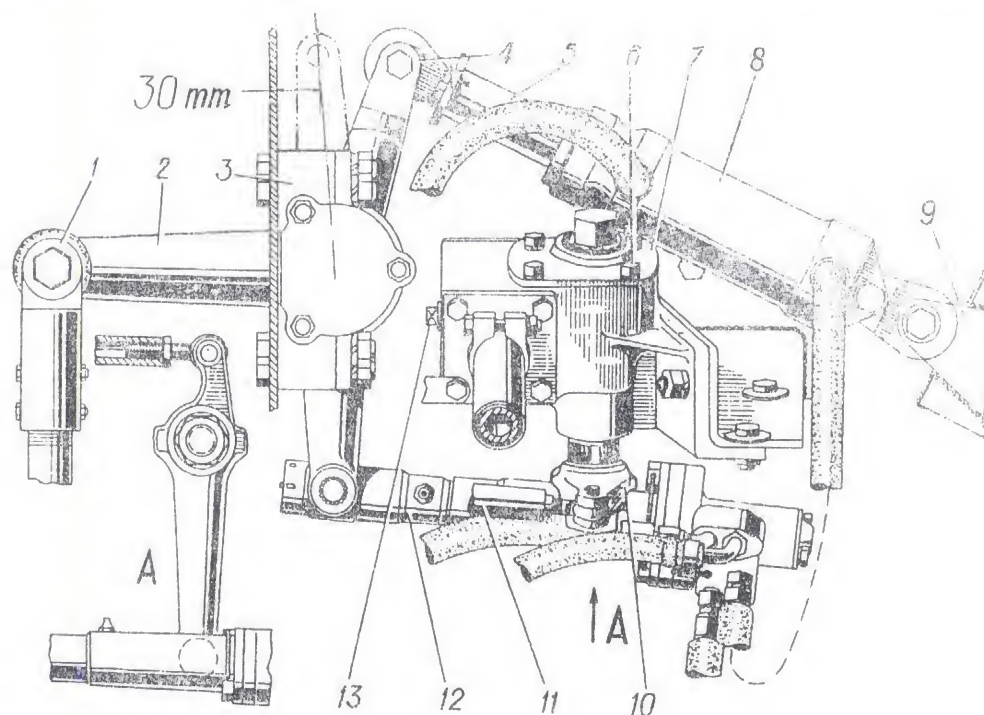

FIG. 46. STEERING CONTROL LINKAGE
Replace oil through the oil filler hole closed by plug 13 (Fig. 46) after having removed the steering gear from the vehicle. To pull out the steering gear it is necessary to remove a floor cover plate, disconnect rods from the steering arm, disconnect the steering gear hose clamp, disconnect the steering column U-bolt from the instrument panel, disconnect horn wire from the steering column, and unscrew the steering gear bolts.
- turn off plug 13 (see Fig. 46) of the oil filler hole and pour oil with the grease gun (see Fig. 151) up to lower edge of the hole, tighten the plug;
- unscrew upper bolt 6 (see Fig. 46) of the steering gear case side cover and add oil through the hole by means of the grease gun. Preliminary take out a pipe of the lever - plunger grease gun without auxiliary tip, insert it into the grease gun tip and fix with adhesive tape.
Use changed Fig. 46 shown below instead of the figure placed on page 35.